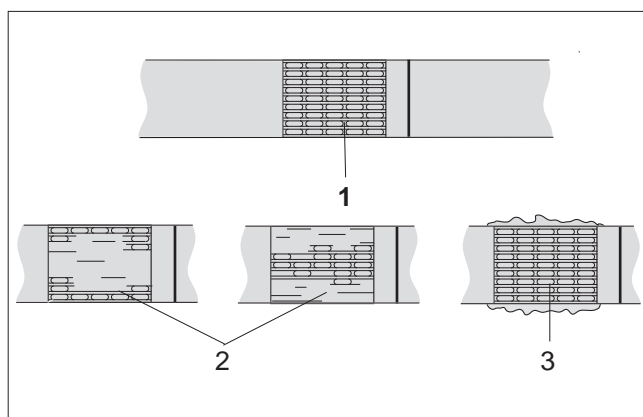

Fig. 9
- Regularly check the sealing (see Fig. 9) for its appearance.